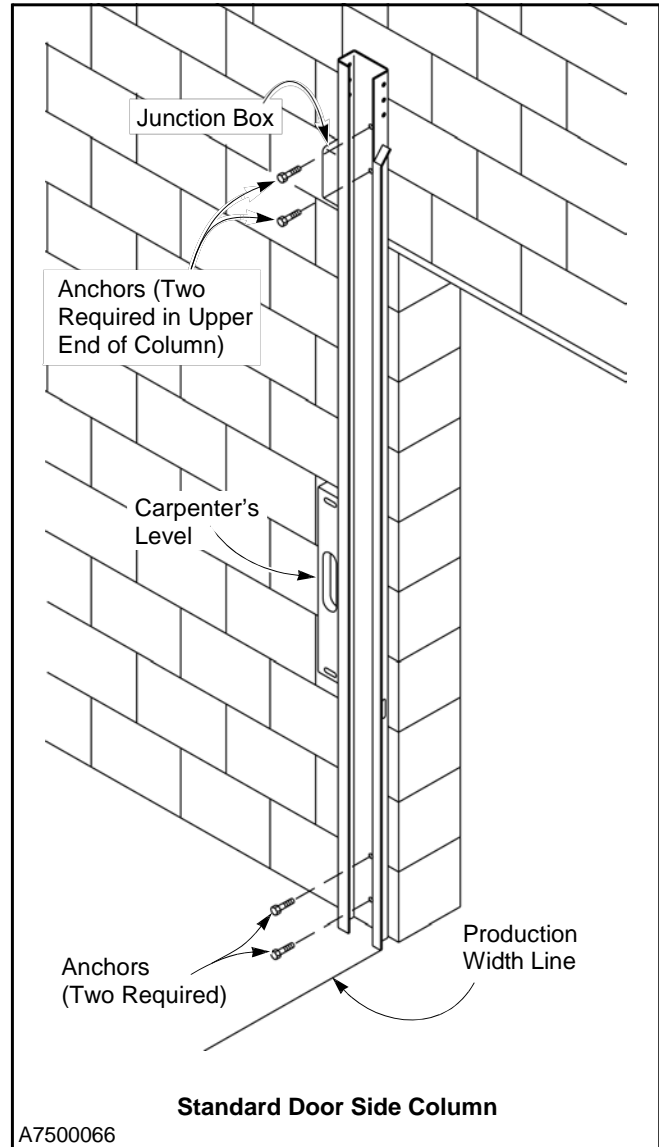

Figure 12
3. Stand the side column on the floor. Place it against the wall, just outside the line indicating the production width of the door. Use bar clamps to temporarily secure the side column to the wall. (See Figure 12.)
4. Once the side column is set plumb and square, anchor it to the wall. (See Figure 12.) Predrilled anchor holes have been provided in the side column. Do not securely tighten the anchors at this time — they will be tightened once the seal assembly has been installed.
4. Once the side column is set plumb and square, anchor it to the wall. (See Figure 12.) Predrilled anchor holes have been provided in the side column near the upper end, through the base, and through one mounting tab along the outside edge of each column. Do not securely tighten the anchors at this time — they will be tightened once the seal assembly has been installed.